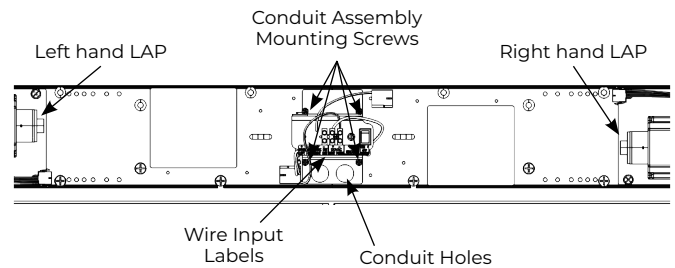

Figure 13
1. Orient conduit assembly so two (2) conduit holes are at bottom and text on wire input label is legible. (Figure 13)
2. Secure assembly to backplate using four (4) #8-32 x 5/16" Phillips head screws. (Figure 13)